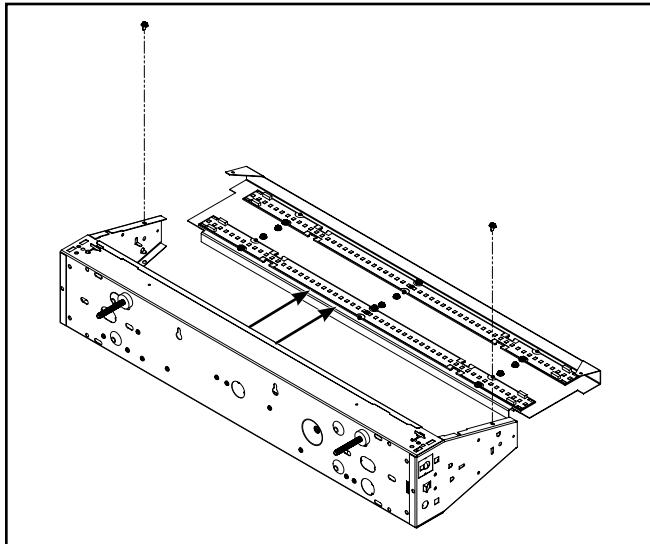

Figure 2. Reflector Assembly Removal
1. Remove (2) screws (Figure 2).